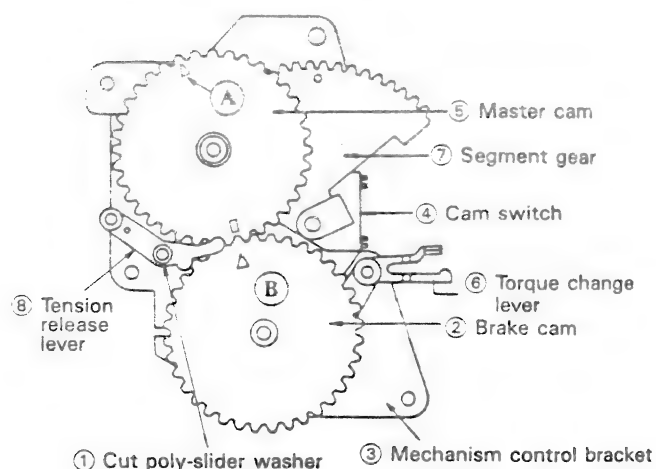

Figure 1-27.
### • Removal (Fig. 1-27.)
1. Remove the cut poly-slider washer ① and tension release lever ⑧.
2. Detach the brake cam ②, segment gear ⑦ and master cam ⑤ from the mechanism bracket ③.
3. Remove the cam switch ④ while keeping its clips in the arrow directions. (See Fig. 1-27 (B).)